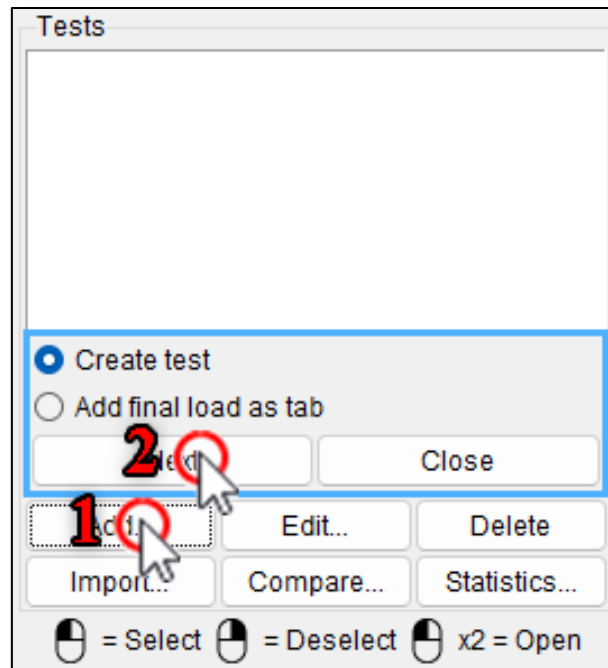

Figure 35
2. Click the “Add...” button in the side panels test module (Figure 35).
3. Click the “Next” button in the pop-up window (Figure 35).